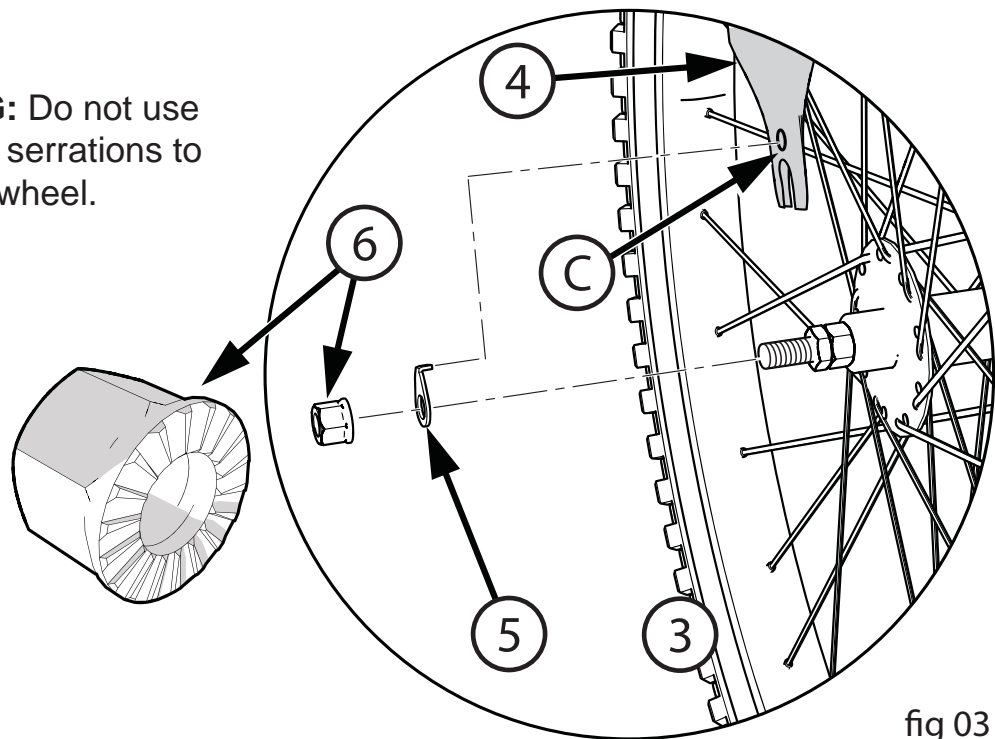

fig 03
3. Set the Front Wheel (3) into the front fork (4) (fig 03).
4. Install wheel retainers (5) making sure the tabs are in the Fork Retainer Holes (C).
5. Attach the front wheel with the Axle Nuts (6).